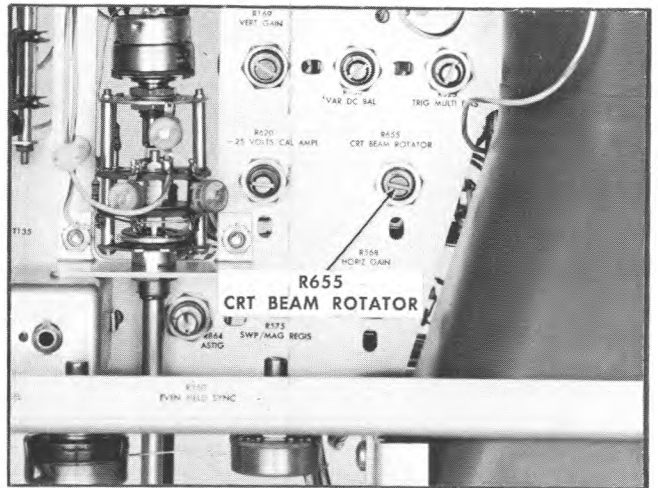
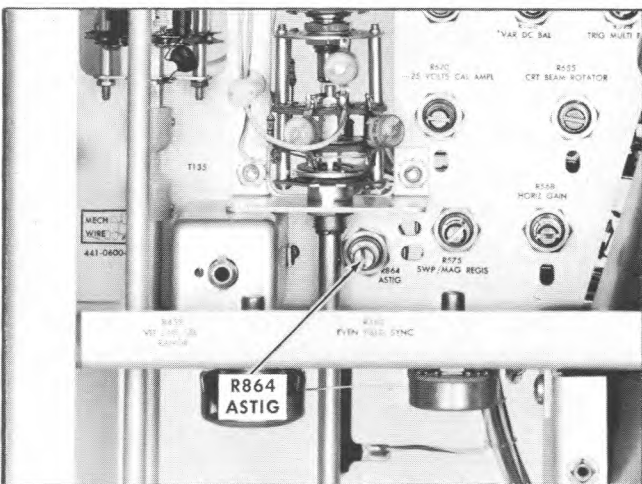
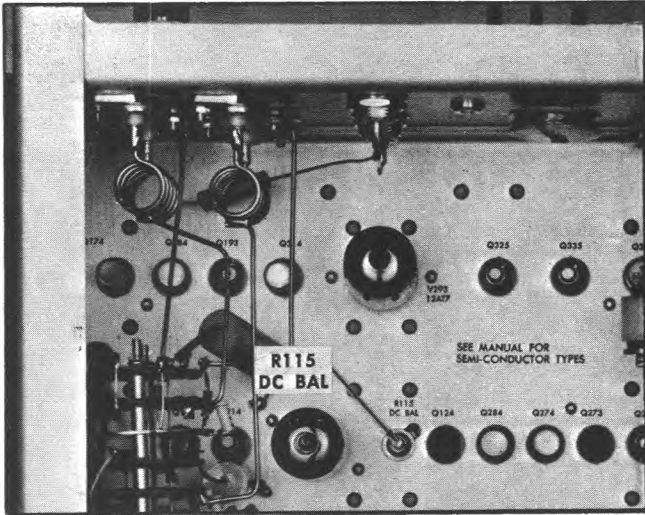

Fig. 6-7. Location of CRT BEAM ROTATOR adjustment.
Fig. 6-6. Location of ASTIG adjustment.
Fig. 6-8. Location of DC BAL adjustment.
5. Adjust ASTIG (R864) ①
- c. Adjust the FOCUS and ASTIG controls (R864; see Fig. 6-6) to obtain a well-defined display using normal brightness.
6. Adjust CRT BEAM ROTATOR (R655) ①
- c. Adjust the CRT BEAM ROTATOR control (R655; see Fig. 6-7) so the flat bottom of the calibrator square waves coincides with the graticule line.
7. Adjust DC BAL (R115) ①
- c. Adjust the DC BAL control (R115; see Fig. 6-8) for no vertical movement of the trace as (VERTICAL) VOLTS FULL SCALE switch is set to 0.2, to 0.5, and then returned to 1.0. Repeat this procedure, if necessary, to check that the adjustment is made properly.